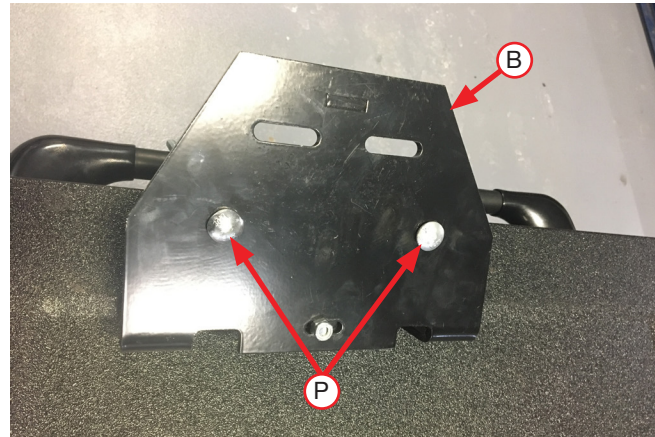

Fig. 12
5. Insert two 3/8"-16 x 10" carriage bolts (P) through the square holes in the lower bracket (B) (Fig. 12).